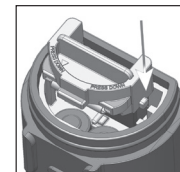
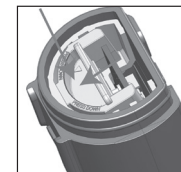

Fig. 3: Align tabs
Fig. 4: Push down to lock
4. To lock the battery plate, align the small tabs (Figure 3) into the guide ribs on the housing and then press down. See Figure 4.